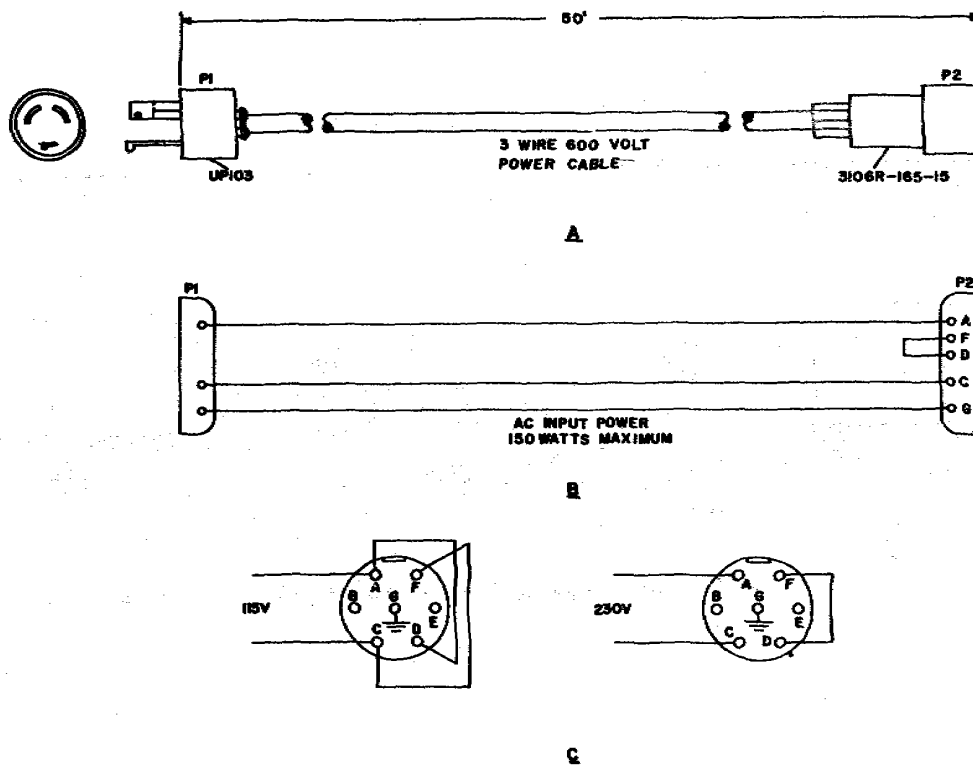

Figure 2-10. 230-Volt Power Cable, Fabrication Diagram
(1) 230-VOLT POWER CABLE. - Power transformer T1 of Power Supply PP-3700/PRC-41 has a split primary. Terminals 1 and 2 of transformer T1 are connected to pins A and F of power connector J1. Terminals 3 and 4 of transformer T1 are connected respectively to pins D and C of connector J1. The connector of Power Electric Cable Assembly CX-8687/PRC-41 which mates with power connector J1 of Power Supply PP-3700/PRC-41 is wired for use with a 115-volt, 50- to 400-Hz primary power source. Refer to figure 1-11. In event that only 230-volt, 50- to 400-Hz primary power is available, the ac power cable shown in figure 2-10 may be fabricated from bulk supplies. This cable differs from Power Electric Cable Assembly CX-8687/PRC-41 in that connector P1 is a 3-prong, 230-volt, twist-lock plug, and plug P2 is wired so as to connect the two primary sections of PP-3700/PRC-41 power transfer T1 in series.
(2) RADIO FREQUENCY COAXIAL CABLE. -Normally when it becomes necessary to connect